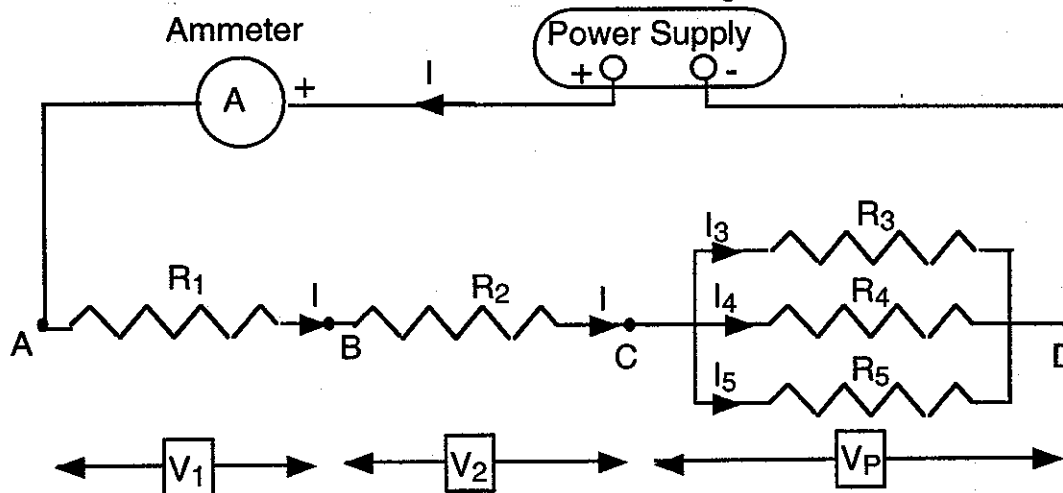

Fig. 1.3
Now let us consider the circuit shown in Fig. 1.3.
If you choose to skip the calculation of V_{\max} , make sure that the current read by the ammeter (in Fig. 1.3) does not exceed the lowest of the maximum safe current of any resistor.
- (d) Make the connections as shown in Fig. 1.3. Remember that current must enter an ammeter or a voltmeter through the terminal marked + (red). In this experiment, the ammeter is used only to make sure that the current in the circuit remains constant during steps (e) and (f). Keep the voltage of the power supply below V_{\max} or make sure that the current read by the ammeter (in Fig. 1.3) does not exceed the lowest of the maximum safe current of any resistor.
6. The reading of the ammeter in Fig. 1.3 should be kept constant during